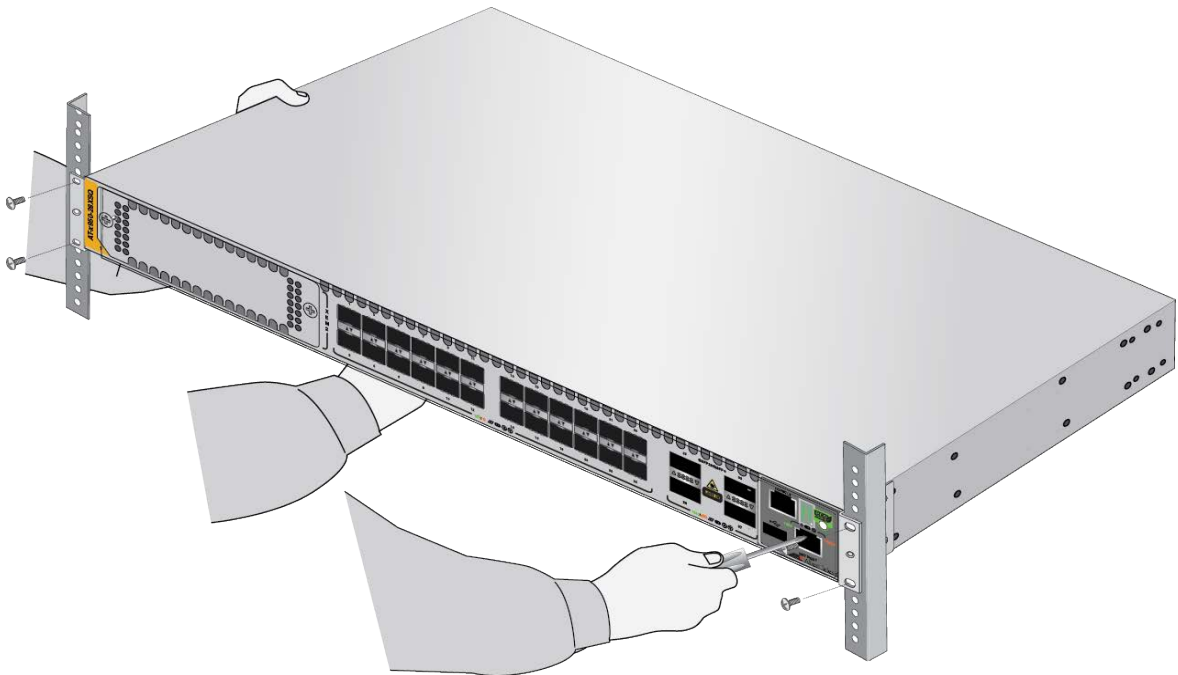

Figure 57. Installing the Switch in an Equipment Rack
3. Attach two rack mount brackets to the sides of the switch in the selected positions as shown in Figure 56 on page 120. The illustration in Figure 57 on page 120 shows the installation of the brackets so that the front panel will be even with the front of the equipment rack.
4. Have another person hold the switch in the equipment rack while you secure it using standard equipment rack screws (not provided). Refer to Figure 57.